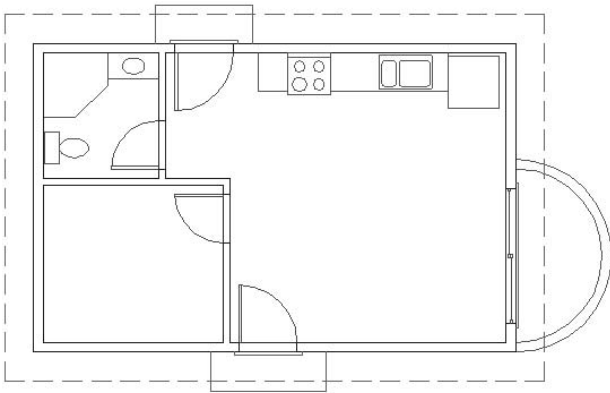

FIGURE 6.28: The eaves lines on the Roof layer with visible dashes
2. Type `24` to set the linetype scale factor to 24. Your drawing changes, and you can see the dashes (see Figure 6.28).